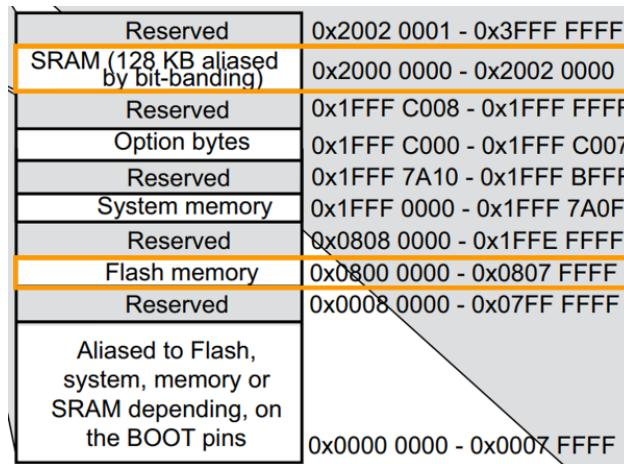

Figure 4.1: A section of the STM32F11 memory map, highlighting the flash memory and SRAM areas
*Figure 4.1* shows a section of the stm32f411 memory map, highlighting the flash memory and SRAM.